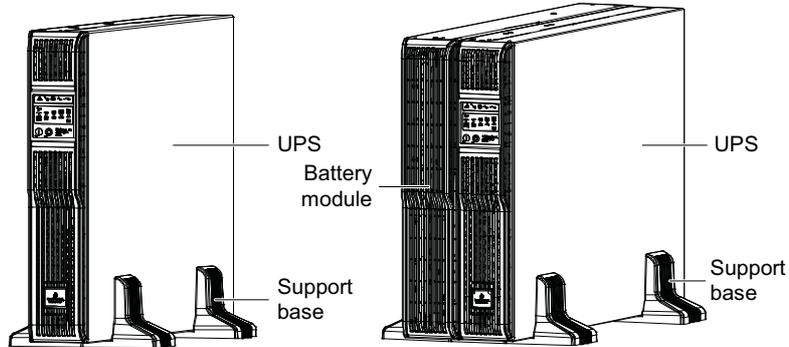

Figure 2-5 Installing the UPS and the battery module
5. Place the UPS and the battery module (if necessary) on the support bases and support base extensions. Each UPS needs two pairs of support bases to install, as shown in Figure 2-5.